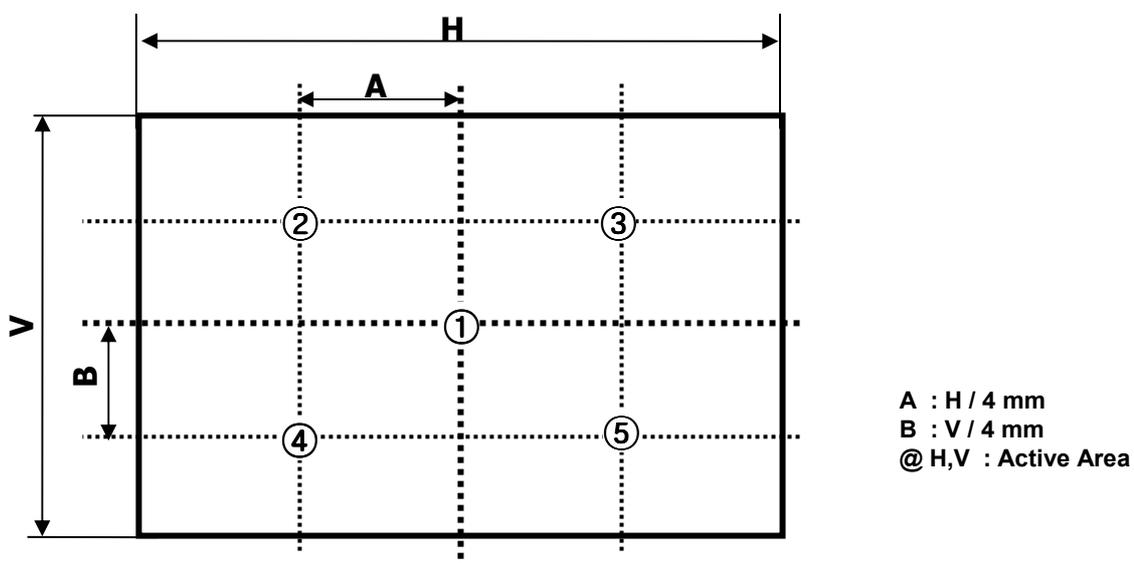

FIG. 2 5 Points for Luminance Measure
2. Surface luminance are determined after the unit has been 'ON' and 1Hour after lighting the backlight in a dark environment at  $25 \pm 2^\circ\text{C}$ . Surface luminance is the luminance value at center 1-point across the LCD surface 50cm from the surface with all pixels displaying white. For more information see the FIG. 2.
For more information, see the FIG. 2. (Reference Data)